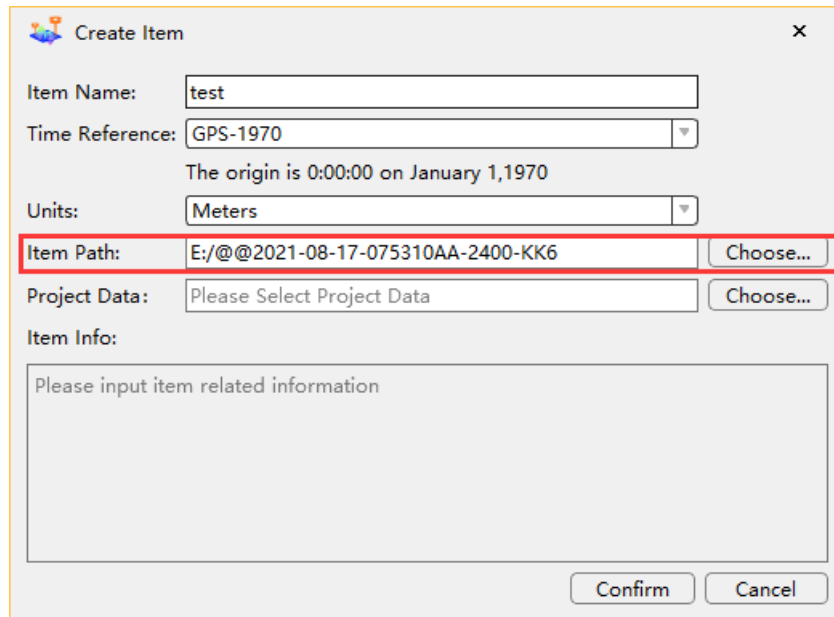

Figure 8
- Click Choose, the New project file path dialog box will pop up as shown in figures 8 & 9